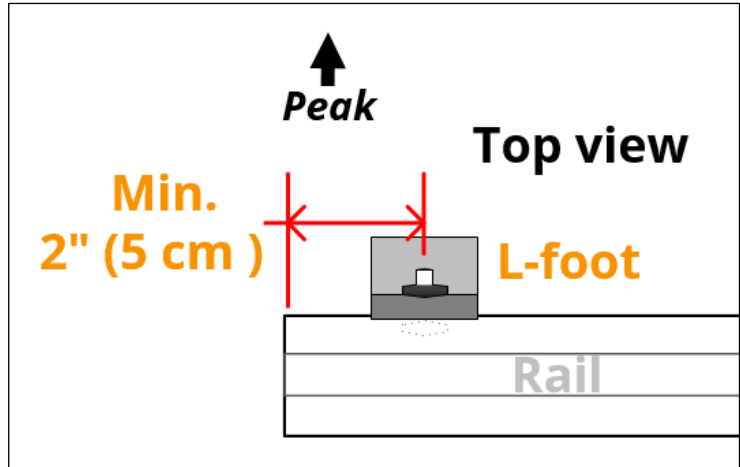
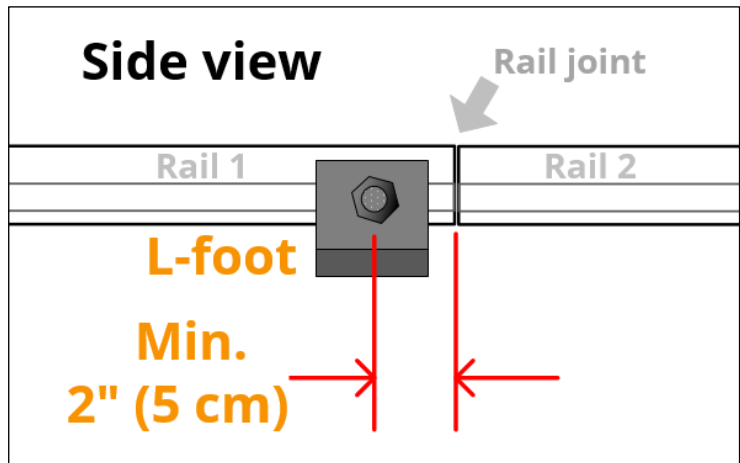

Fig. 5
Fig. 6
**Important!** The splice is an integral part of the ground path. There must be no interference between the splice screws and the L-feet. Therefore, ensure that the splice screws will not interfere with your eventual attachment of the rail to the L-foot (refer to Fig. 5 and Fig. 6).
**Note:** L-feet are shown “facing” the peak (Fig. 4 and Fig. 5), but may be installed facing the eave instead.
L-feet (or any other attachment type) must be positioned such that the L-foot-to-rail bolt is a minimum of 2" (5 cm) from the end of a rail (Fig. 5); and a minimum of 2" (5 cm) from any rail joint (Fig. 6).